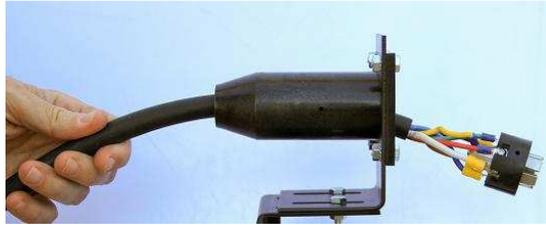

Fig. 1
- 2) *Important – this step must be done before proceeding.* Wire 7-way RV connector and wire cable (**both not included**) to female connector J1. Insert one set screw to fasten the J1 connector to the J1 conductor block inside. See fig 1.